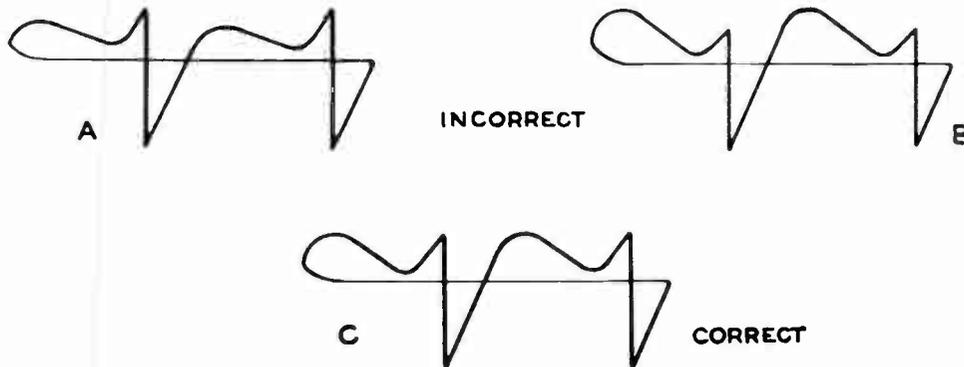

Figure 2. - Horizontal Oscillator Adjustment Waveforms
4. Turn the horizontal hold control one quarter turn from the clockwise position so that the picture is in sync. The pattern on the oscilloscope should be as shown in Figure 2.